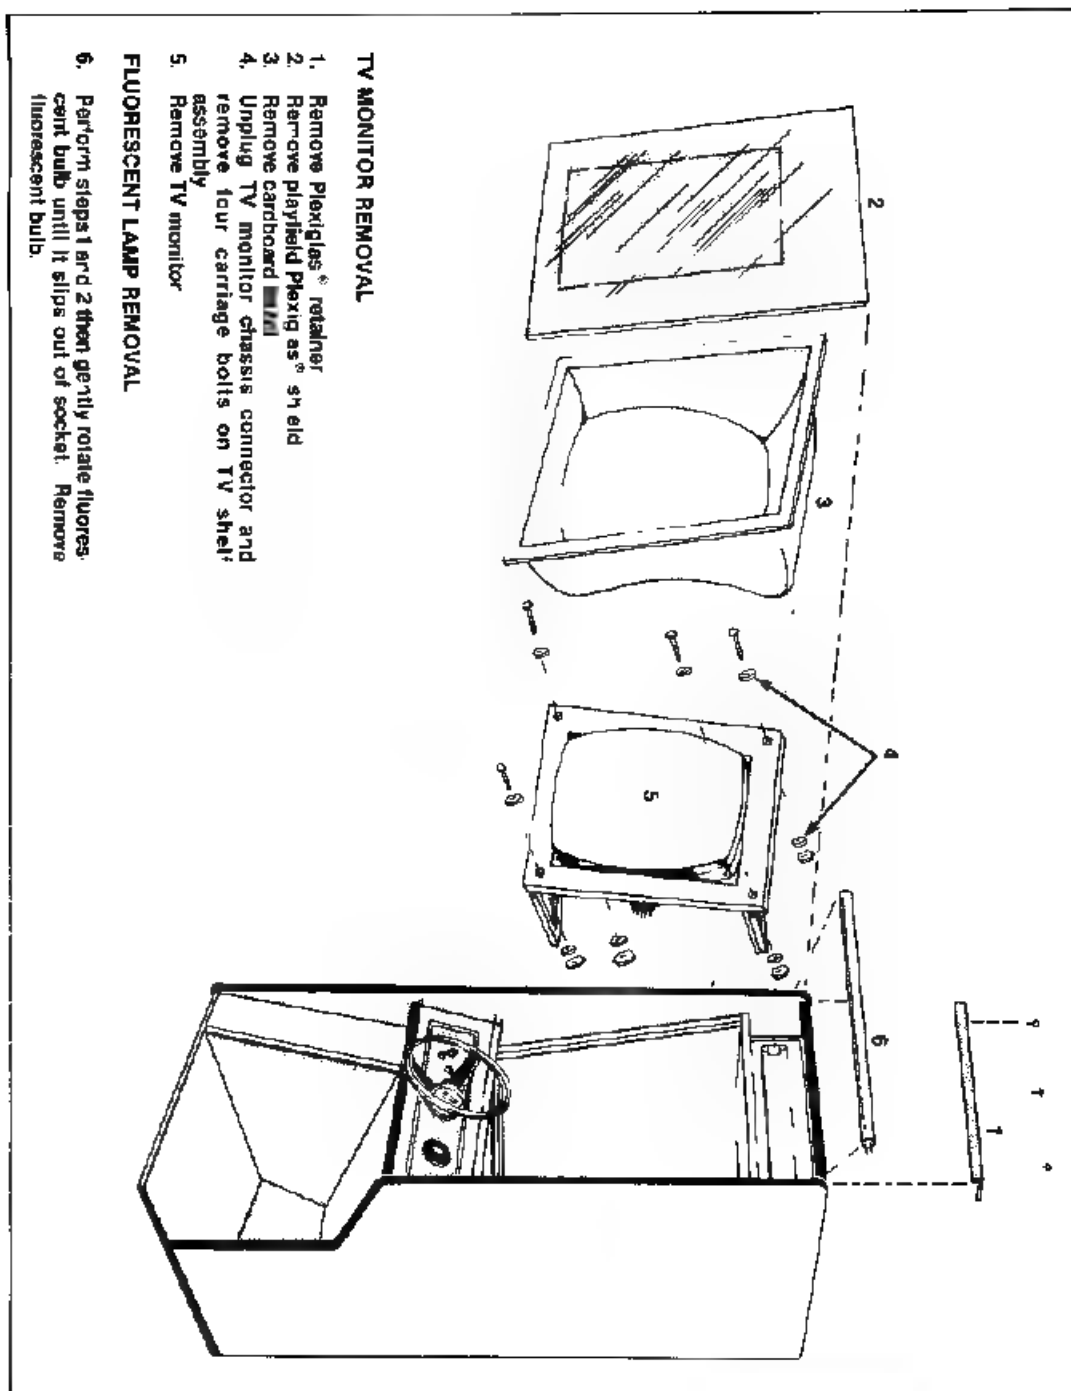

Figure 3-10 TV Monitor and Fluorescent Lamp Removal
E. TV MONITOR REMOVAL (See Figure 3-10)
F. LAMP REPLACEMENT (See Figure 3-10)